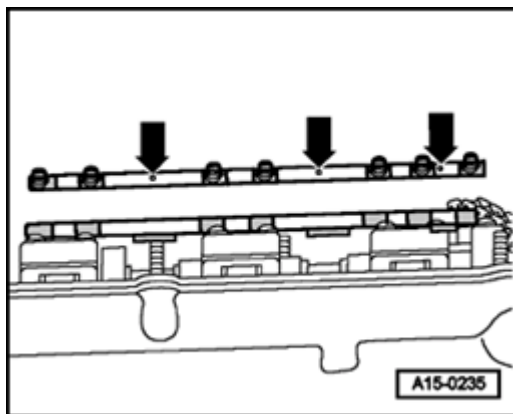

Fig. 3 Installation position of intake camshaft oil line
- ◆ Note installed position ⇒ Fig. 3